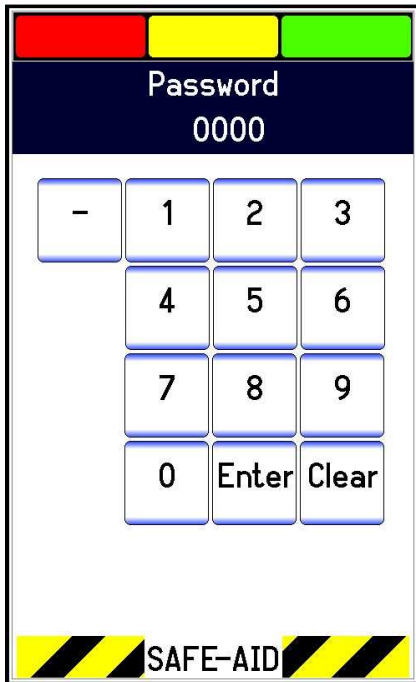

Figure 23
PROGRAM & REEVING LOCKOUT - FIGURES 23, 24, 25 & 26
1. Press the top left hand corner and the **Password** screen will be displayed (figure 23).